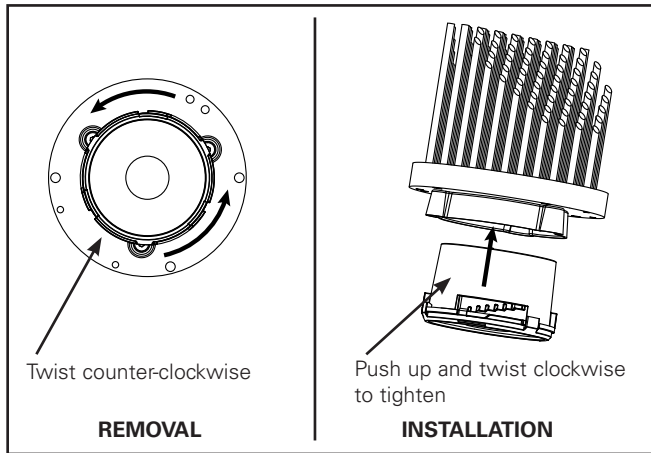

Figure 5
1. To remove optic, twist gently counter-clockwise. To replace, push optic and twist gently clockwise until it “clicks” (see Figure 5).